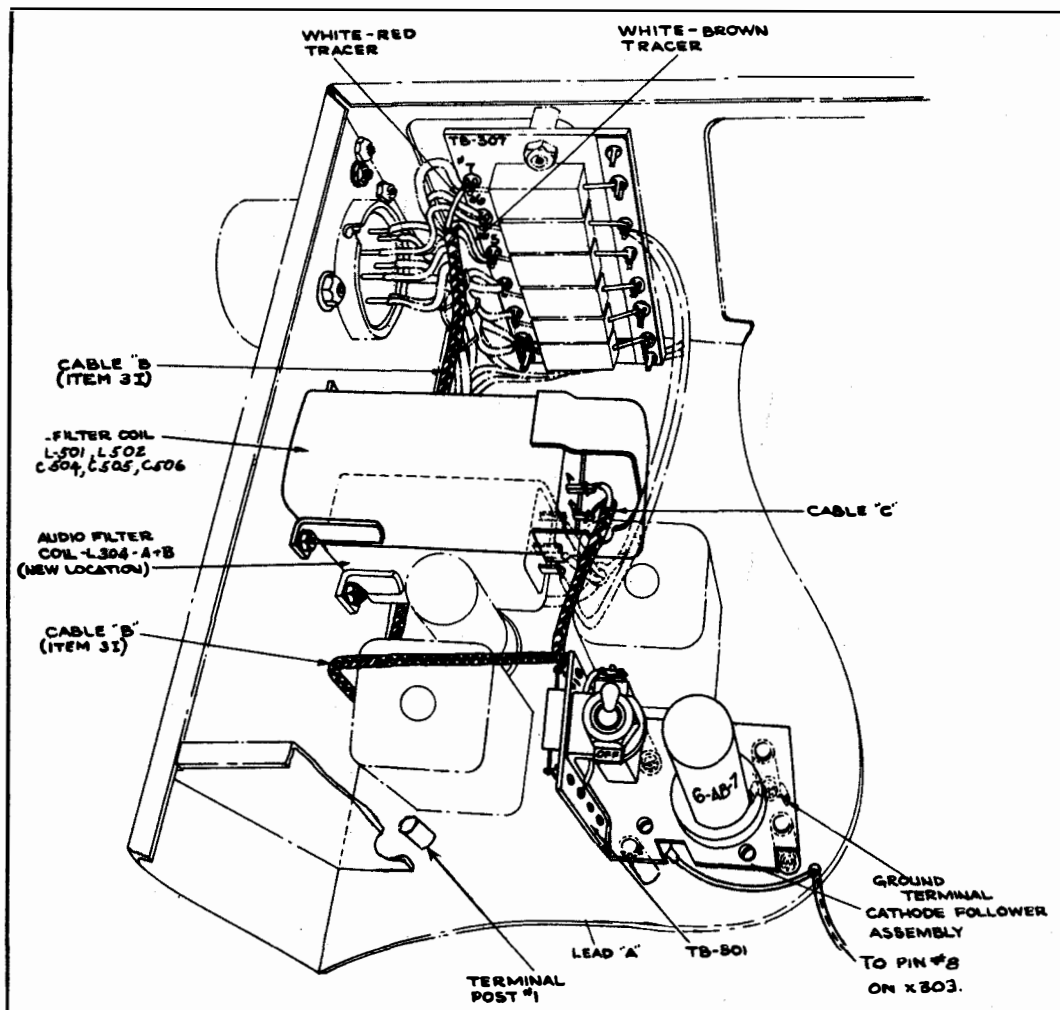

Fig. 3-7 Installation of Coupling Kit Components
**g. CATHODE FOLLOWER ASSEMBLY MOUNTING.** (See Figs. 3-7 and 3-8).
(1) Mount the cathode follower assembly in position as shown in Fig. 3-7.
(2) Fasten this assembly to the chassis by means of four screws H512 and lockwashers H509. Be sure to put the ground terminal in place as shown in Fig. 3-7.
**h. WIRING:** (See Figs. 3-7 and 3-9).
(1) Connect lead "A" to pin No. 8 on socket X303 of receiver. (See RBB/RBC Instruction Book, Connection Diagram).
(2) Connect cable "B" to TB307. The white lead with red tracer is connected to terminal No. 7 and the white lead with brown tracer is connected to terminal No. 5.
(3) Connect cable "C" to TB501, terminal No. 1, located on the cathode follower assembly.